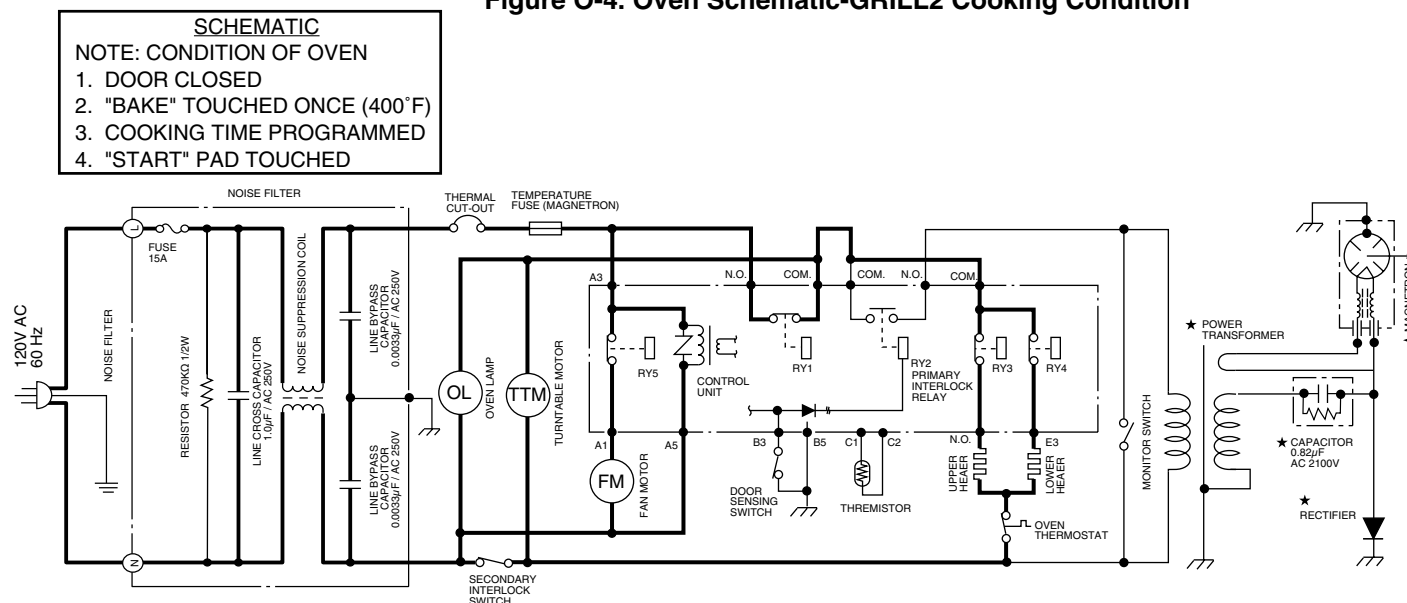

Figure O-5. Oven Schematic-BAKE Cooking Condition
1. Program desired oven temperature by touching the BAKE pad. Enter the cooking time by rotating the rotary dial. When the START pad is touched, the following operations occur (Figure O-5):